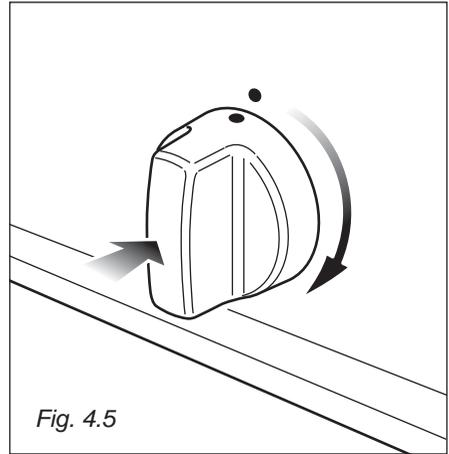

Fig. 4.5
- 2) Lightly press and turn the temperature knob clockwise (fig. 4.5) to the  position (fig. 4.1).